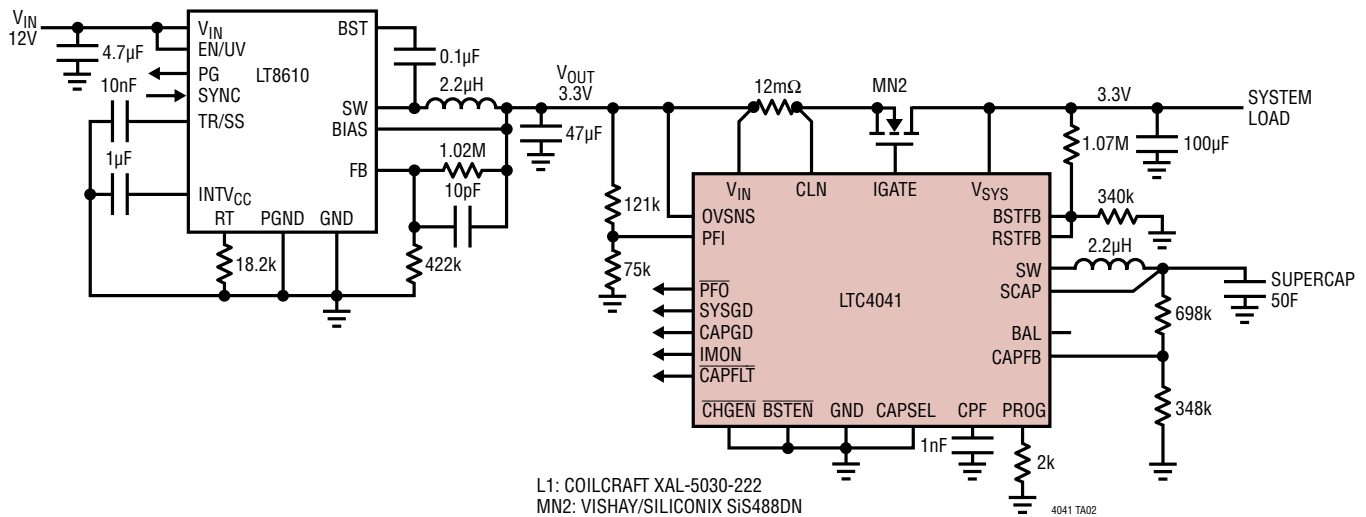

**Figure 4. High Frequency Ground Currents Follow Their Incident Path. Slits in the Ground Plane Cause High Voltage and Increased EMI**
2. To minimize parasitic inductance, the ground plane should be as close as possible to the top plane of the PC board (Layer 2). High frequency currents in the hot loop tend to flow along a mirror path on the ground plane which is directly beneath the incident path on the top plane of the board as illustrated in Figure 4. If there are slits or cuts or drill-holes in this mirror path on the ground plane due to other traces, the current will be forced to go around the slits. When high frequency currents are not allowed to flow back through their natural least-area path, excessive voltage will build up and radiated emissions will occur. So every effort should be made to keep the hot-loop current path as unbroken as possible.